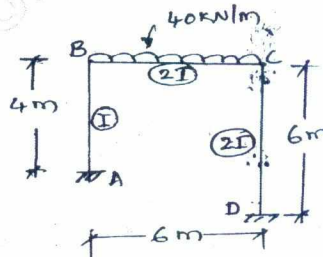

Fig.Q4
- 4 Analyse the frame shown in Fig.Q4 and draw bending moment diagram. Adopt Slope Deflection method. (20 Marks)